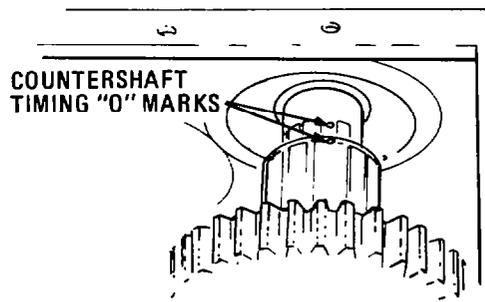

Fig. 205 — Aligning Timing "O" Marks
- o. Align the timing "O" marks on the front and rear countershafts, then push the rear countershaft in until the rear bearing positioning snap ring seats against the case (see fig. 205).